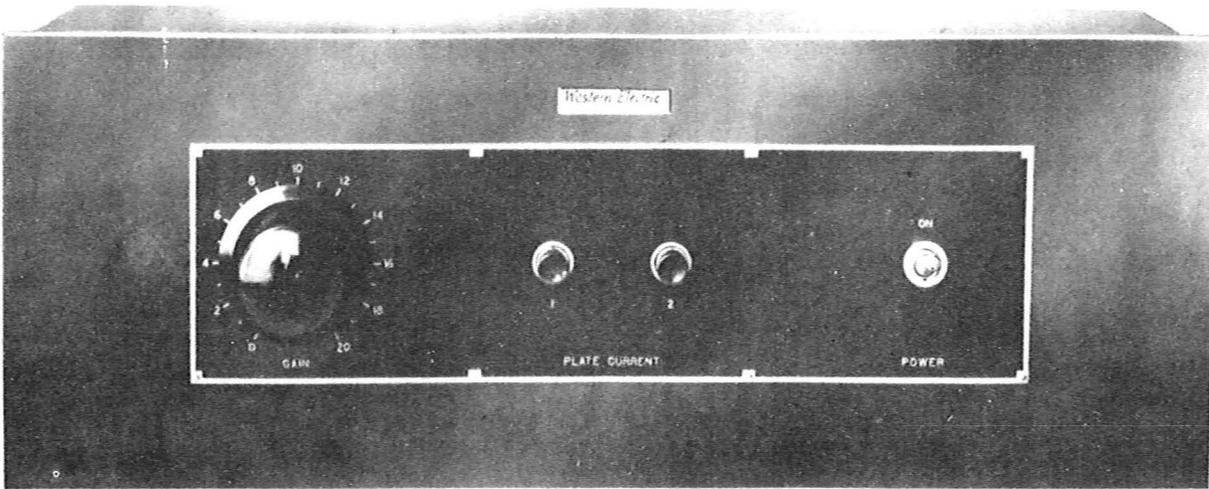

Fig. 1a - 106-Type Amplifier - Front View
1.06 Front and rear views of the 106A amplifier are shown in Figs. 1a and 1b, respectively.